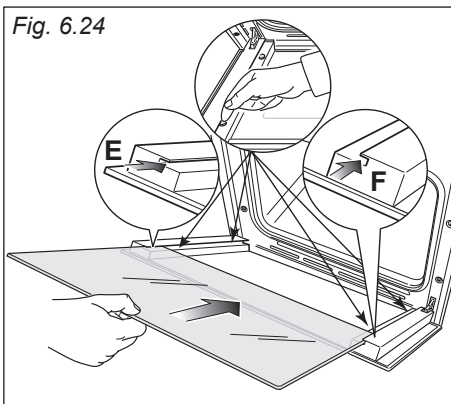

Fig. 6.25
- Insert the pane in the left "E" and right "F" slide guides (fig. 6.24), and gently slide it to the retainers "H" (fig. 6.25).